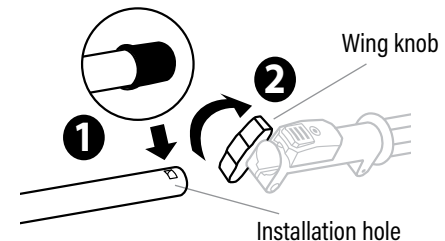

Fig. 3A
2. Loosen the wing knob. (Fig. 3A)